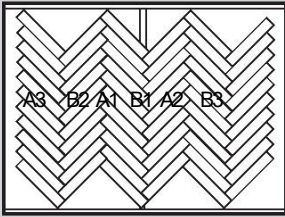

Fig 8
9. Continue with all B planks and repeat on the other side of the original "B" planks with "A" planks. Complete the room repeating the same method making sure to keep the expansion spacers in place and the pattern square (Fig 8).